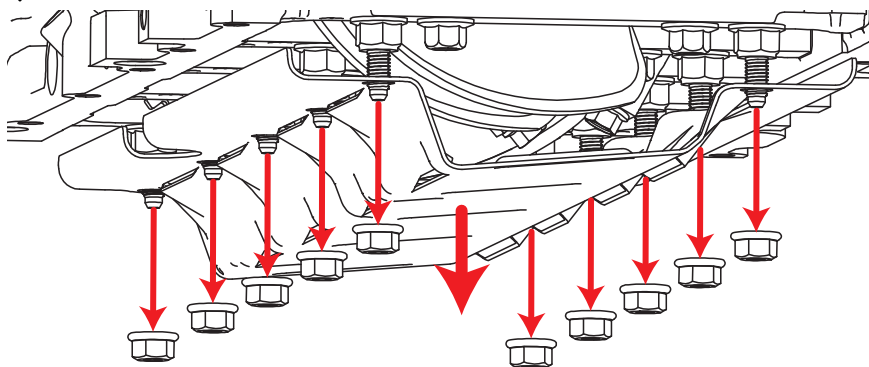

Figure 3 - Removing the Factory Windage Tray
7. Use a 13 mm tool to completely remove the factory windage tray. This is illustrated in Figure 3.